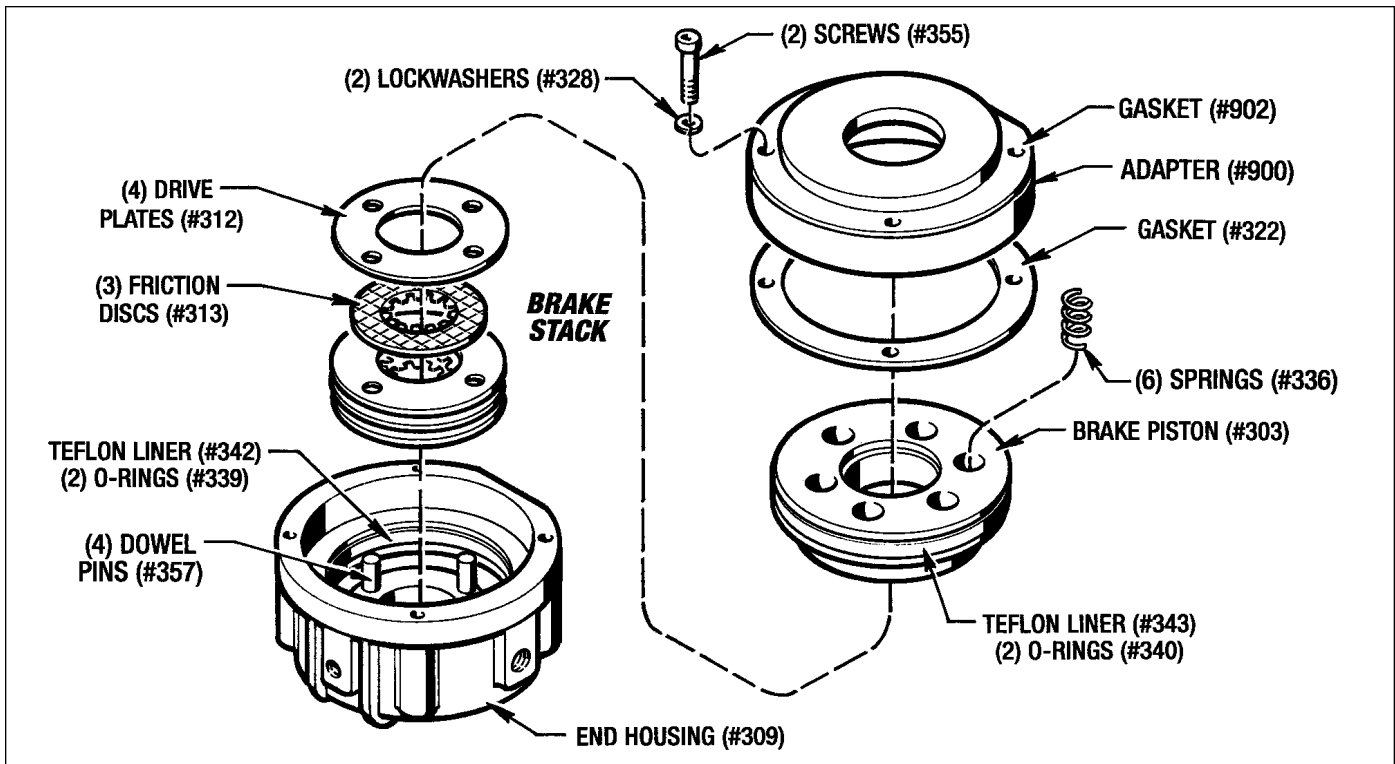

Figure 7.5 - Brake Assembly
4. Set the Brake Assembly on the work bench with the End Housing (#309) facing down. (See Figure 7.5)
5. Remove the (2) Screws (#355) and (2) Lock Washers (#328) and take the Adapter (#900) and Gasket (#322) off the Brake Assembly. Discard the Gasket (#322).
- CAUTION - This Assembly is under spring pressure so evenly back out these (2) Screws (#355) until the spring pressure is relieved.**
6. Take the (6) Springs (#336) out of the spring pockets.